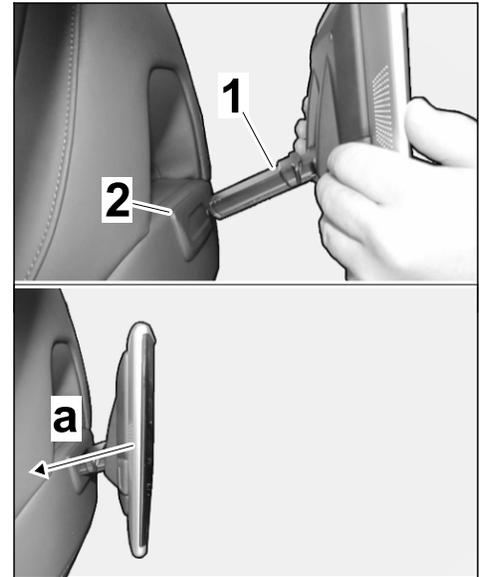

Figure 8
3.3 Fit mounting arm at the mounting point on the front seat backrest (⇒ *Figure 8-top*).
Push the display unit with mounting arm into the mounting point (⇒ *Figure 8-a*) until the mounting arm locks with an audible click.